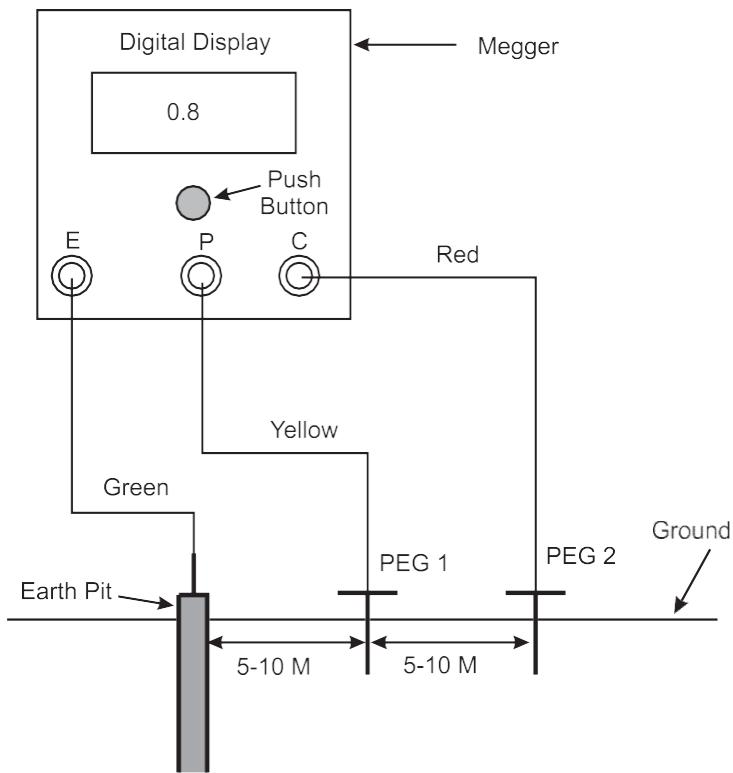

Figure 28.1: Checking of Earth conductivity
The resistance of earth pit is measured by an instrument called ‘Megger’. Direct reading meggers with digital display are available in market. They are very simple to operate and can be easily used for checking the earth resistance measurement. Figure 28.1 shows the method of connection and measurement.
As we see in Figure 28.1, digital Megger has got three terminals namely E, P, and C. Terminal E is connected to the earth pit. Terminals P and C are connected to two pegs driven in the ground at a distance of 5 to 10 metres from the earth pit. Note the colour code of wires used for each connection. They match the colour of terminals of the Megger. A push button is provided on the meter which when pressed, connects voltage to leads. The digital display directly reads the earth resistance in ohms.
- Make the connections as shown in Figure 28.1 ensuring the colour code of wires and connectors provided on the megger.